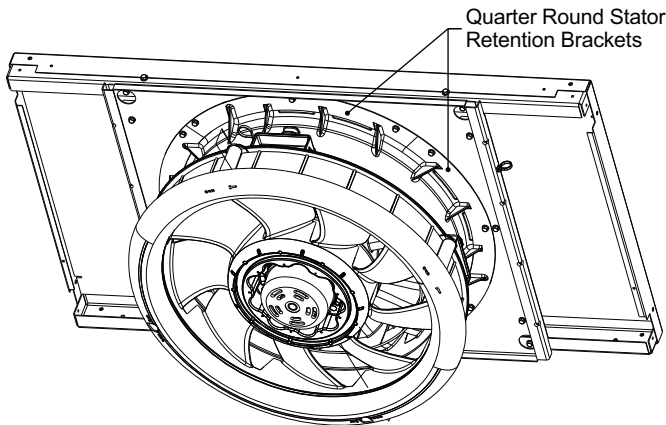

Fig. 42 — Quarter Round Stator Retention Brackets
3. Remove three screws from each of the quarter round stator retention brackets. See Fig. 42.